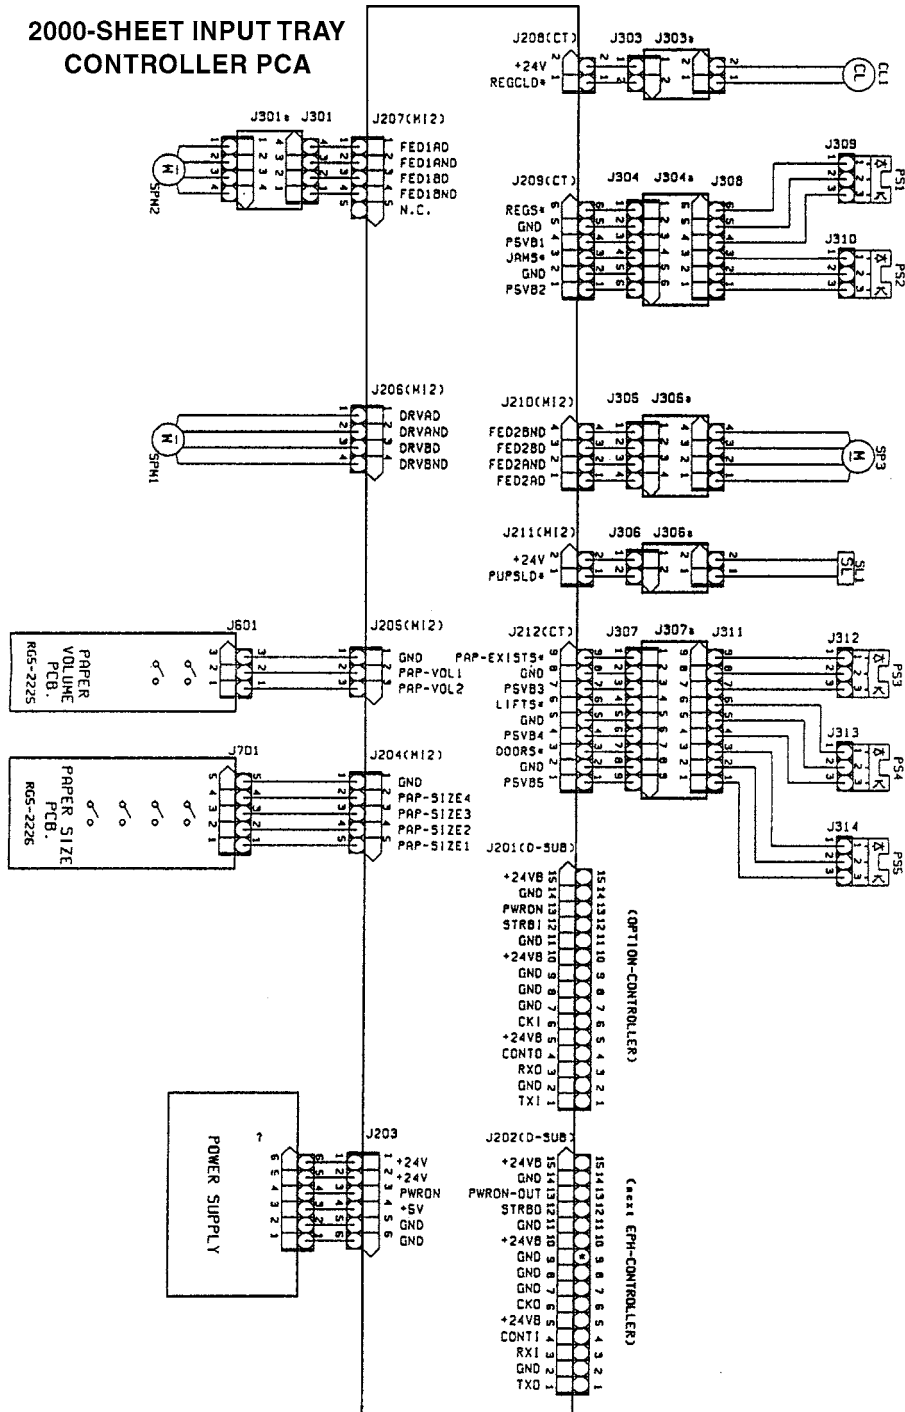

Figure 7-35 2000-sheet Input Tray Main Wiring Diagram
- Figure 7-35, "2000-sheet Input Tray Main Wiring Diagram," on page 713